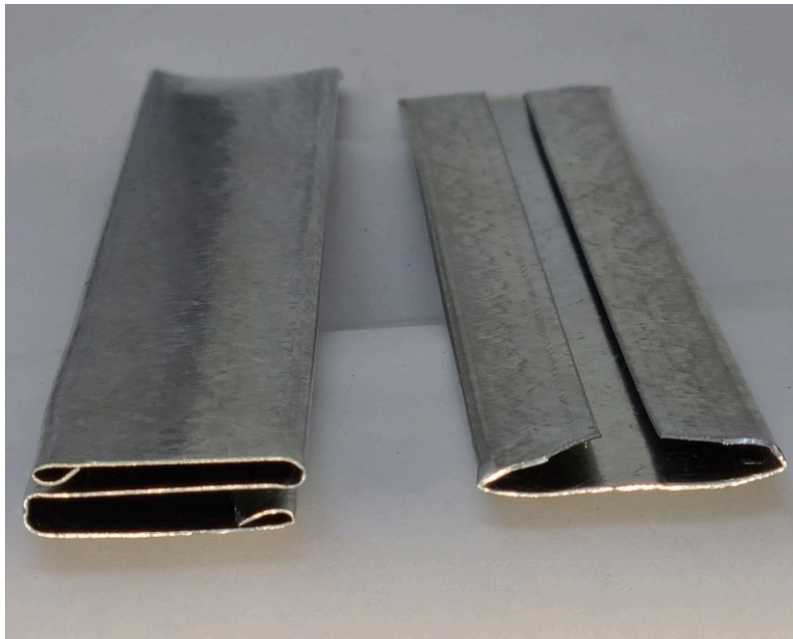

Figure 16. S-Cleat and Drive Cleat
The standard means of connecting two assembled rectangular duct sections end to end (transverse joint) is to use sleeves of galvanized sheet metal called S-Cleats (Slip) and Drive Cleats (Figure 16). The drive cleat on the right has its two inside corners trimmed off. This will make it easier to get it started onto the two duct hems.
- Figure 16. “S-Cleat and Drive Cleat” by Camosun College is licensed under a CC BY-NC-SA licence (<https://creativecommons.org/licenses/by-nc-sa/4.0/deed.en>).